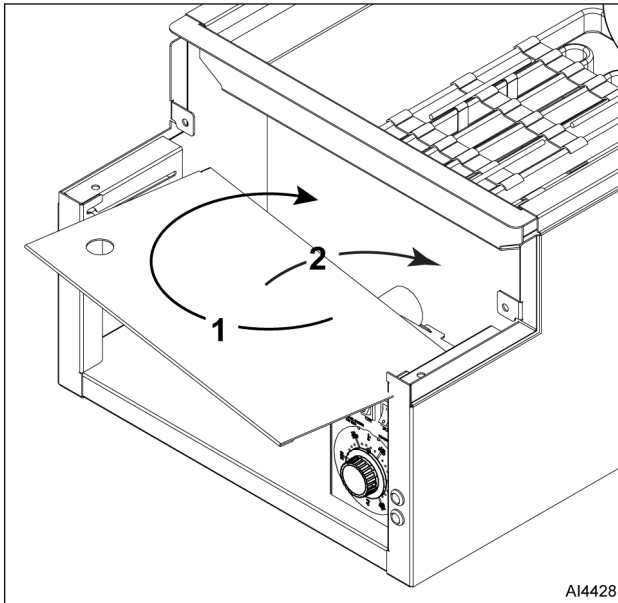

Fig. 12
- Rotate and lift to remove fryer door plate (Fig. 12).